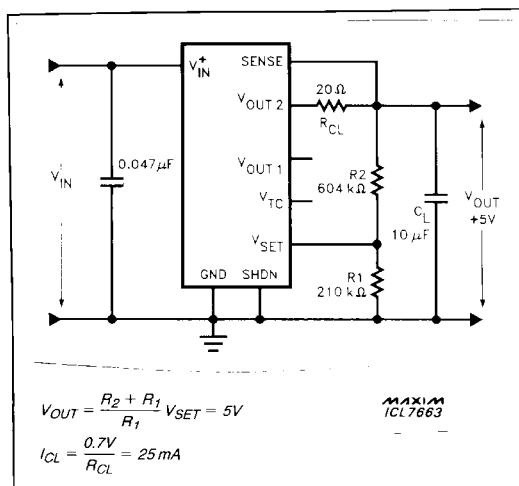

Figure 3. Maxim's Application of ICL7663 (Positive Regulator, Current Limit).
**Note 4:** This output has a positive temperature coefficient. Using it in combination with the inverting input of the regulator at  $V_{SET}$ , a negative coefficient results in the output voltage. See Figure 3 for details. Pin will not source current.
Figure 3 shows a typical positive voltage regulator using the ICL7663. The input voltage, VIN, can range from a maximum of 16V to a minimum of the output voltage plus the input-output differential. The output voltage is set by the resistors R2 and R1, and the output current limit is set by RCL. The 0.047µF capacitor on the input limits the rate-of-rise during power-up and also removes some of the high frequency noise on the input voltage. In Figure 3, the logic shutdown is not used and is therefore grounded. VOUT2 should be connected directly to SENSE if current limiting is not used.
The Maxim ICL7663A  $V_{SET}$  voltage is guaranteed to be  $1.30V \pm 25mV$ , eliminating the need for trim pots in most cases. Specifically, using the Maxim ICL7663A and the resistor values shown in Figure 3, the initial voltage will be within  $\pm 2.7\%$  of 5V, assuming  $\pm 1\%$  tolerance resistors. The output voltage will remain within  $5V \pm 5\%$ , over  $0-70^\circ C$ . This tolerance includes the effect of ICL7663A  $V_{SET}$  error, the  $\pm 1\%$  initial tolerance on both resistors, and the resistor ratio temperature coefficient of nearly  $200 \text{ ppm}/^\circ C$ . Since the resistor ratio temperature coefficient is generally much lower than the absolute temperature coefficient, 100 or 200 ppm resistors can be used, even over the full temperature range while still allowing the output to stay within 4.75V–5.25V.
The circuit in Figure 3 will limit the output current to approximately 35mA. Current limiting will start, when the output current exceeds 35mA and the voltage drop across the 20 $\Omega$   $R_{CL}$  is 500mV. For other current limits the value of  $R_{CL}$  can be calculated from the formula: